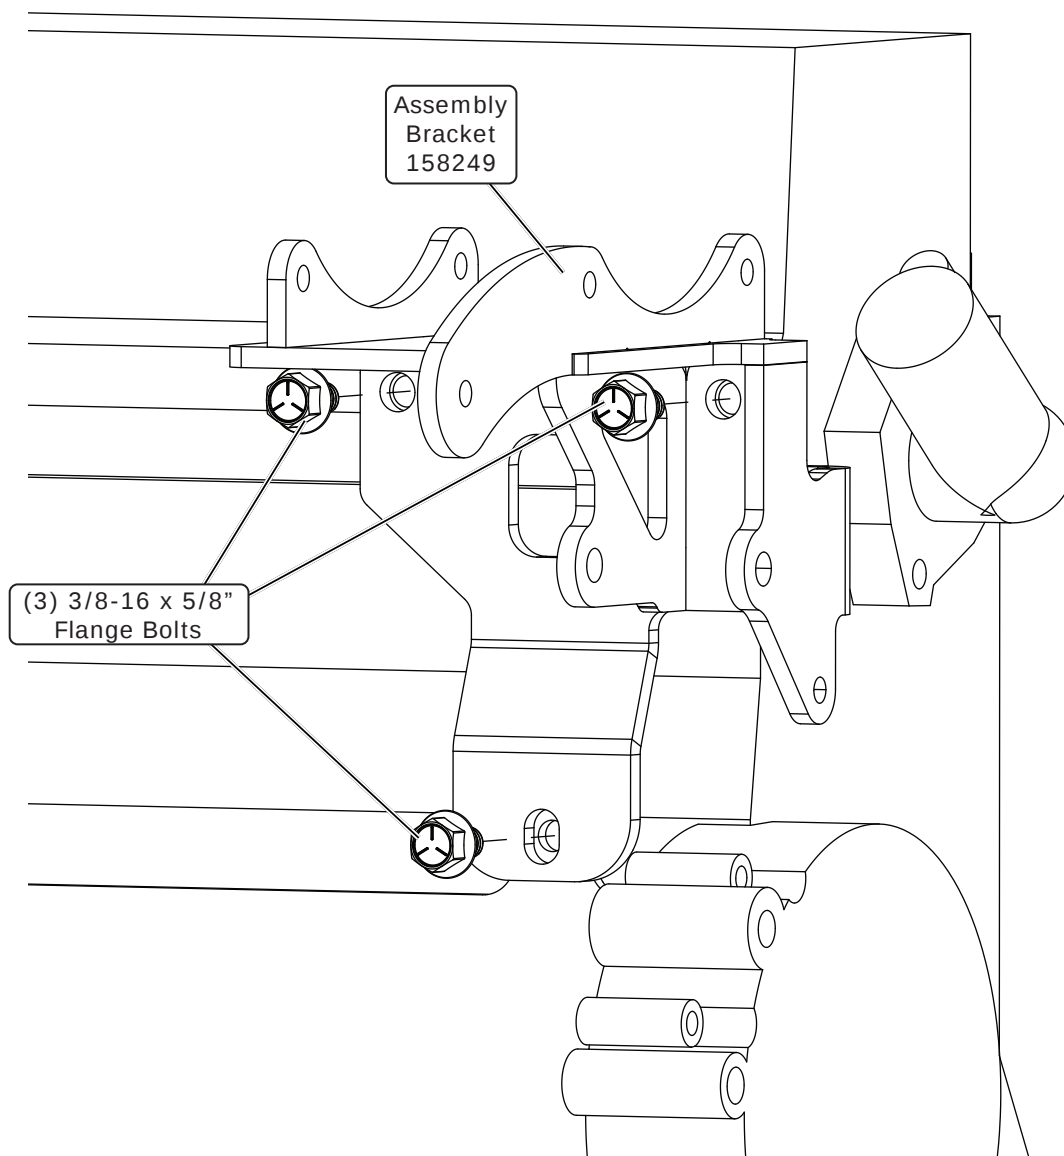

Figure 1
1. Install the assembly bracket onto passenger side engine using (3) 3/8-16 x 5/8" flange bolts as shown in Figure 1, below.